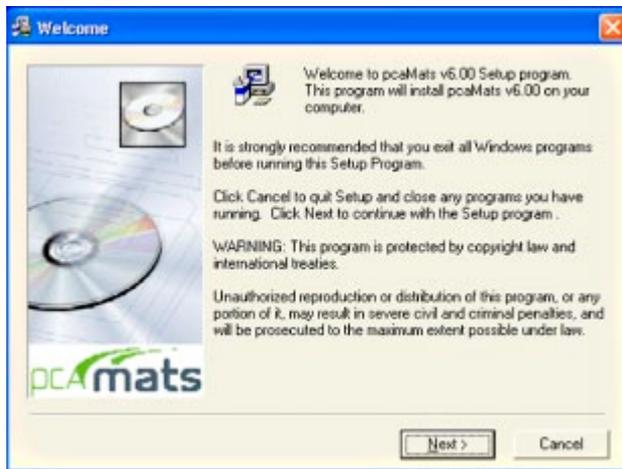

Figure 1-4 — Copyright announcement
6. The first step of the application installation process is to review the information on the software and the copyrights announcement as shown in Figure 1-4. Press the NEXT button to go to the next step.